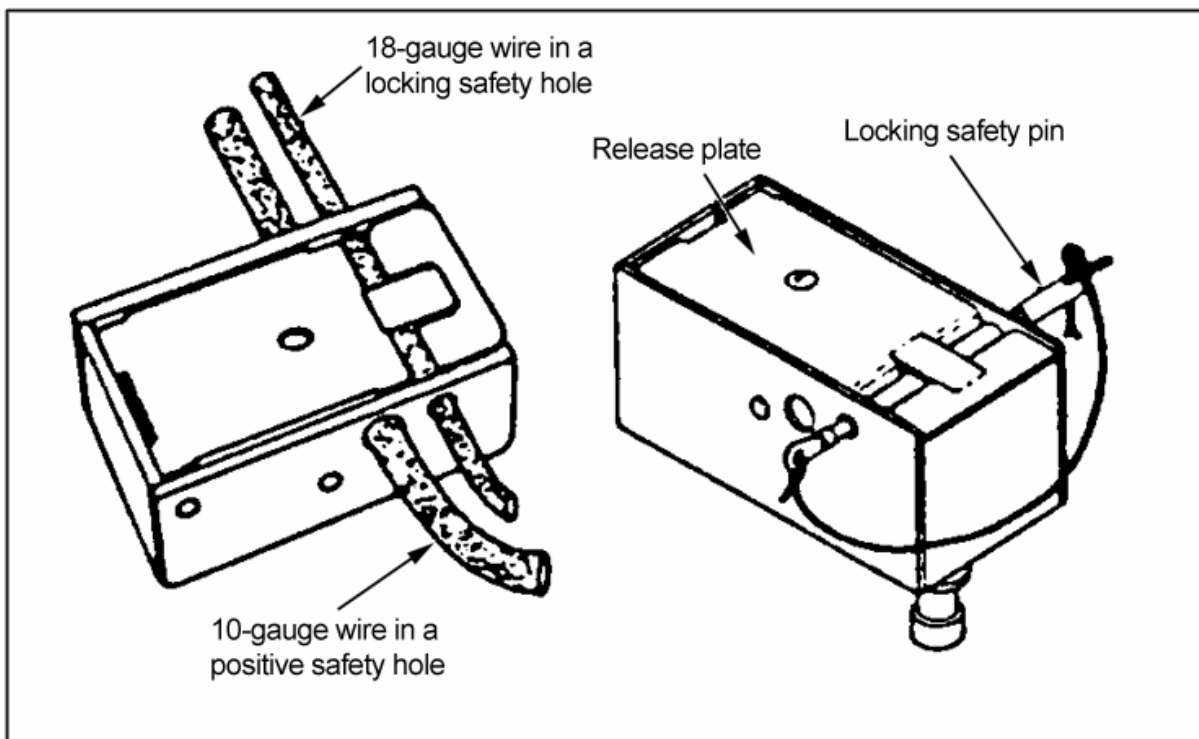

Figure 052-192-1154-2
- b. Keep pressure on the lid while inserting a length of 10-gauge wire in the positive safety hole. Remove the locking safety pin, and replace it with a length of 18-gauge wire (Figure 052-192-1154-2).